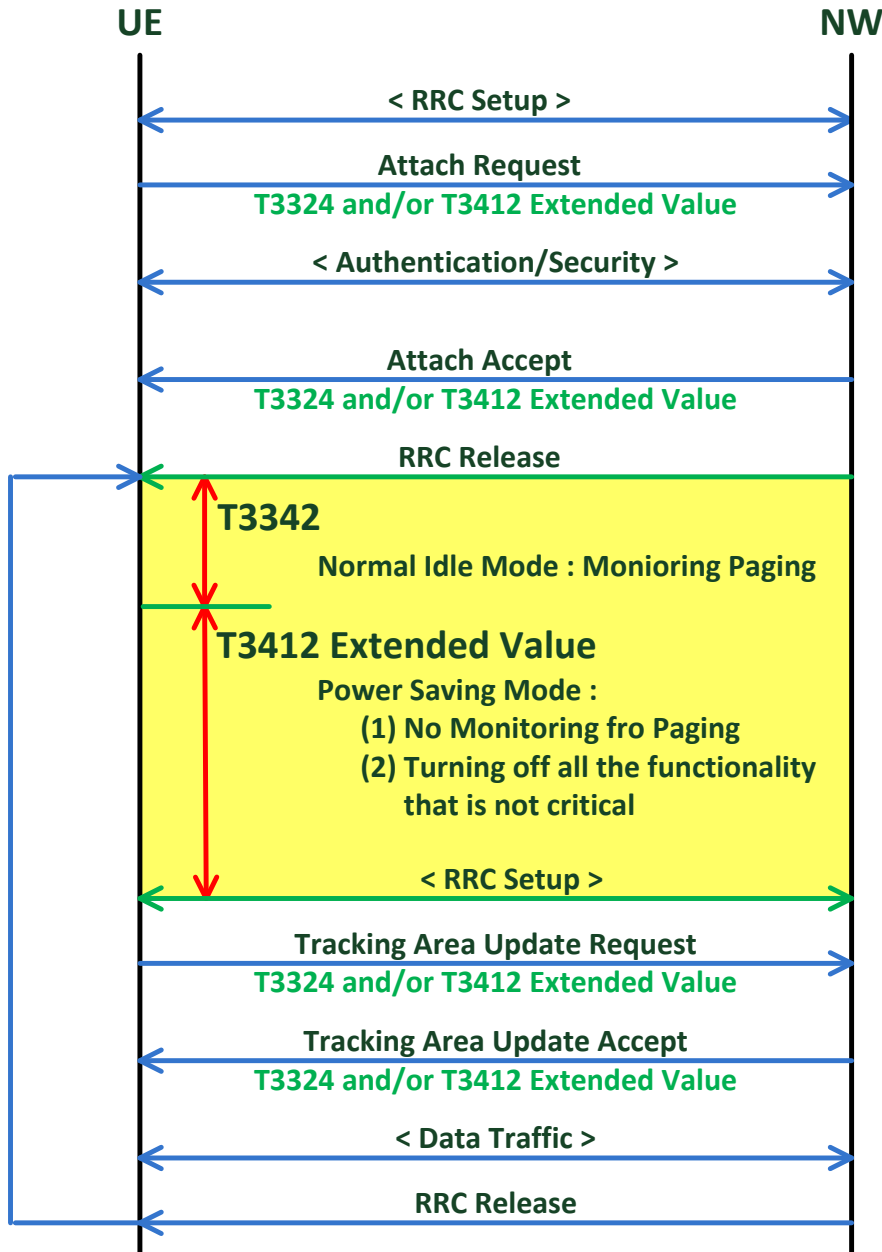

Figure 14. PSM mechanism between UE and NW
Figure 14 can describe the PSM mechanism between User Equipment (UE) and Network (NW). The time of T3412 could be configured by users. Please refer to the document “WNC IMA3 Application Notes for Power Saving Mode v0.9.4.pdf” for the commands of PSM.